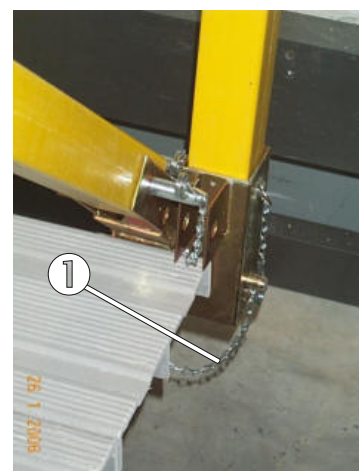

Fig. 47: Make sure the chain falls correctly
Make sure that the locking pin chain hangs downwards (fig. 47/pos. 1).